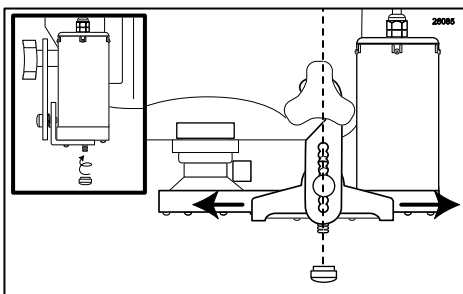

Figure 136
4. Use the Gear Box thumb nut to adjust the Suspension Bracket horizontally so that it hangs straight down from the door nut. (See Figure 136.)